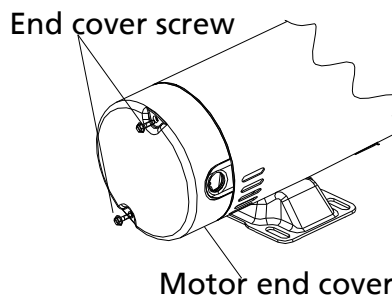
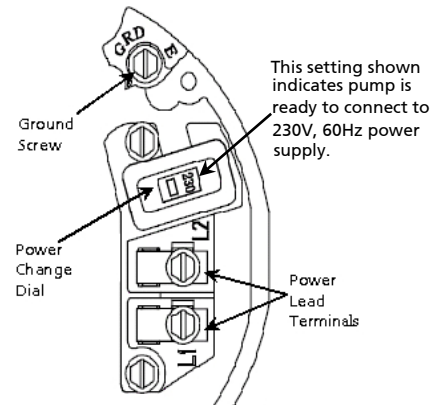

Figure 5- Removing Motor End Cover
Figure 6- Voltage Set to 230 Volts, Dial Type
Dual-voltage motors are factory wired for 230 volts. If necessary, change switch setting to 115 volts, as shown in Figure 6. Do not alter the wiring in single voltage motors.
If you have a dual-voltage motor, and will connect it to 115 volts, follow the procedure below. You will need to remove the motor end cover to change the voltage setting (see Figure 5). Your motor terminal board (located under the motor end cover) should look like the one in Figure 6.
2. Select the UP knob position for 115V or DOWN position for 230V, until 115 or 230 shown in the dial window (see Figure 6).